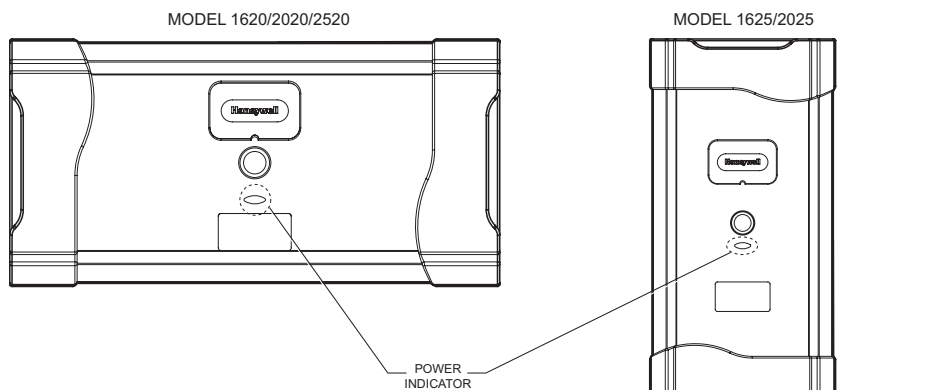

Fig. 17. Power Indicator
- d. The power indicator light below the Honeywell Enhanced Air Cleaner power switch will illuminate (see Fig. 17).
The Honeywell Enhanced Air Cleaner is equipped with a power indicator light located on the door (see Fig. 17 on page 19). This power indicator light illuminates when the Honeywell Enhanced Air Cleaner door is installed, the power switch is in the on position, AND the air handler blower or furnace blower is running and (for 1620, 2020, and 2520) airflow is sensed. If the power indicator light is not illuminated, follow the troubleshooting steps below.